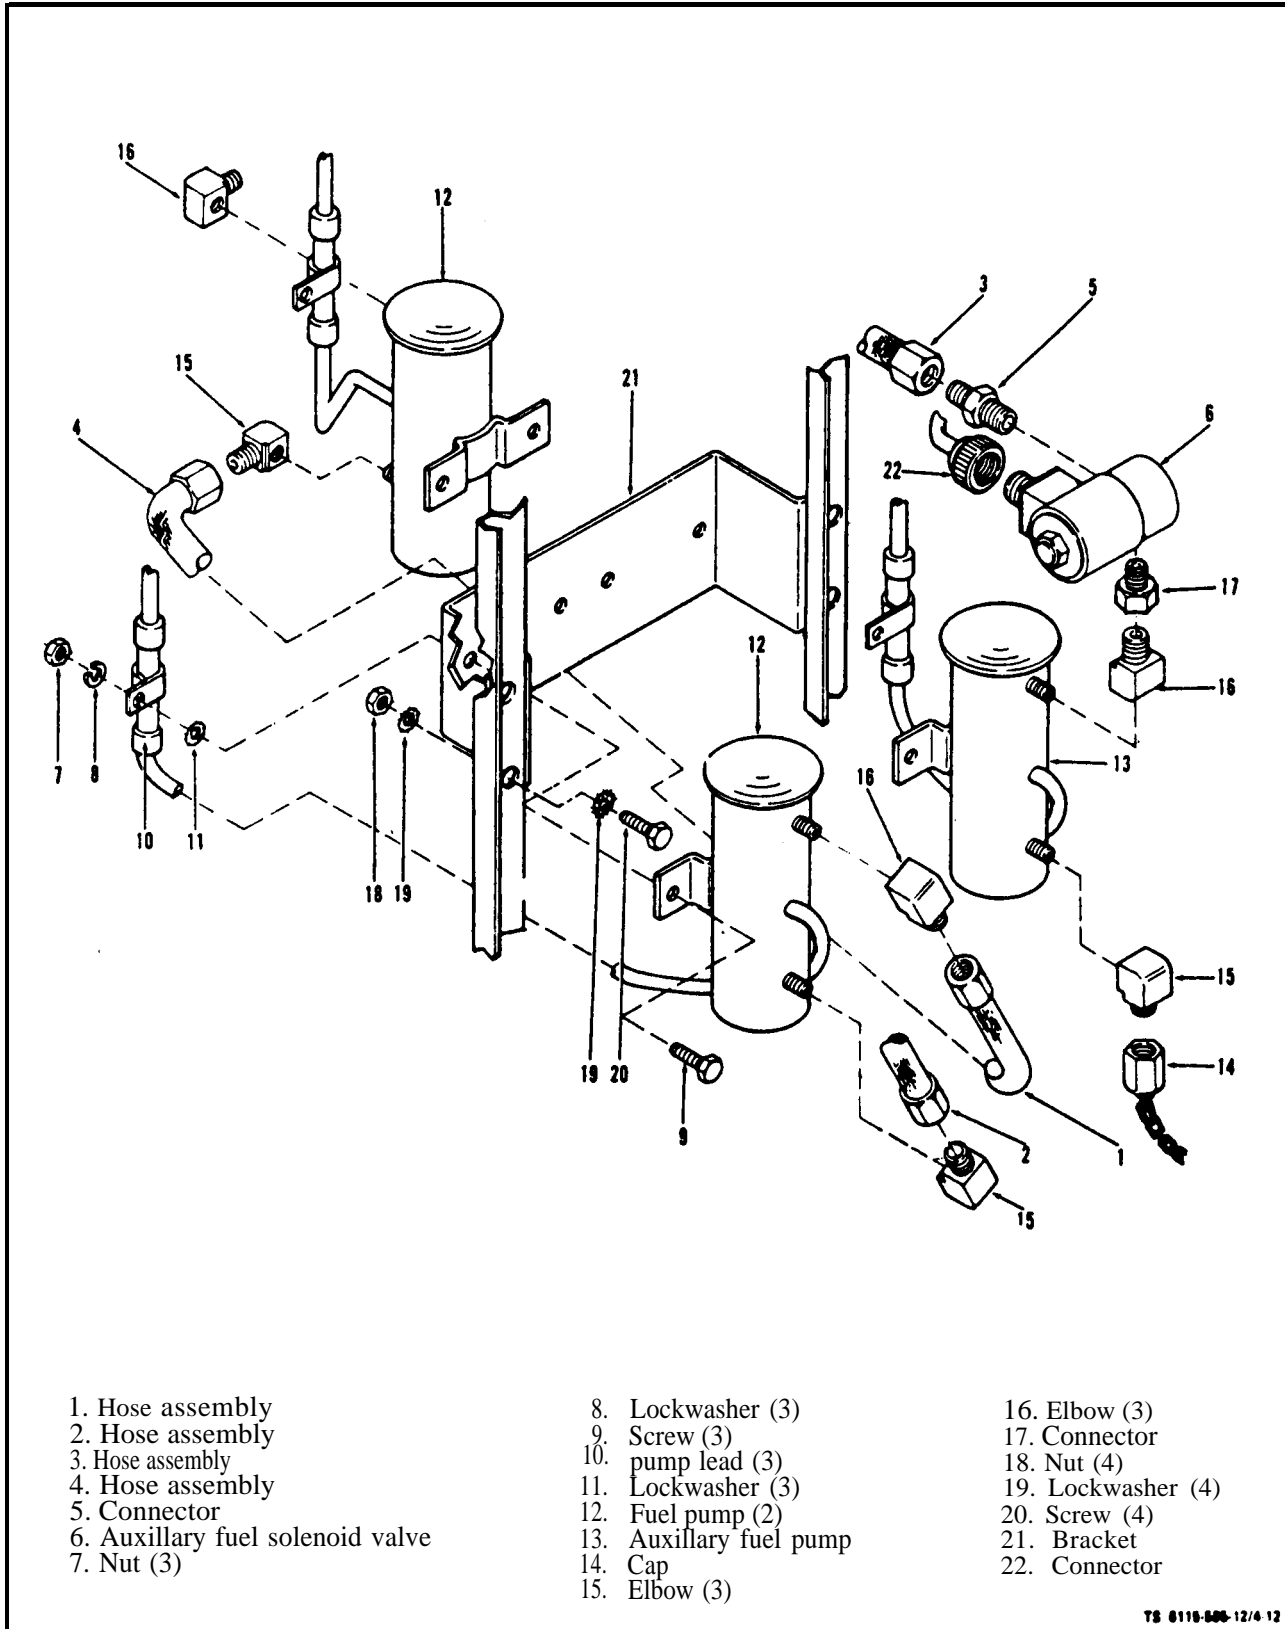

Figure 4-12. Fuel Pump, Fuel Hoses and Solenoid
c. Removal (see figure 4-12).
(1) Fuel Hoses. Tag and remove fuel hoses (1, 2, 3 and 4) by unscrewing at fittings (5.15 and 16). Keep
(1) Position bracket (21) on frame and secure with screws (20), lockwashers (19) and nuts (18).
(2) Install fuel fittings (17, 16, 15, 14 and 5) in fuel pumps (12 and 13).
(3) Turn solenoid valve (6) onto fuel pump outlet fittings (16 and 17) and position on fuel pump as shown in figure 4-12.
(4) Install fuel pumps (12 and 13) on bracket (21) and secure with screws (9), washers (8 and 11) and nuts (7). Reconnect electrical leads to wiring harness and fuel solenoid valve.
(5) Install and tighten fuel hoses (4, 3, 2 and 1).